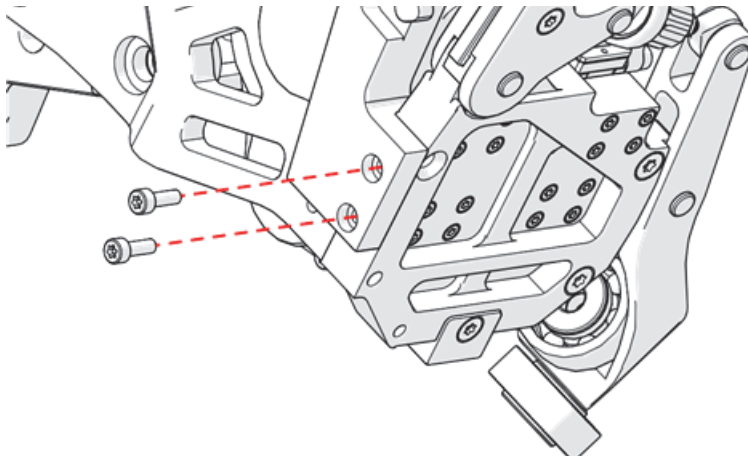

Figure 2-29 Remove motor carriage arm screws
9. Remove the two screws from the motor carriage arm (see Figure 2-29 on page 103).